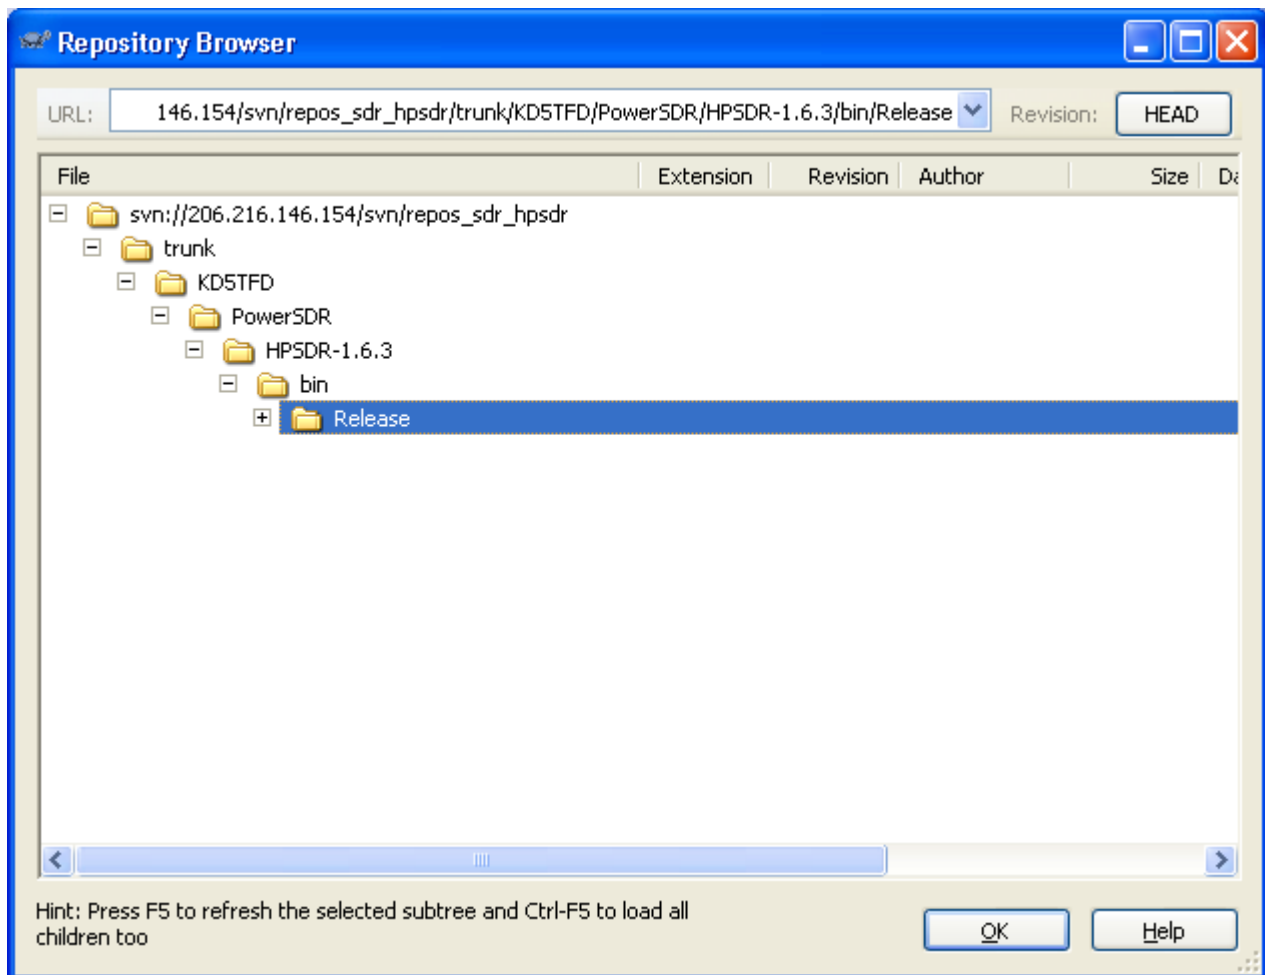

Fig 5: Tortoise SVN Repo-Browser Displaying Folders Containing LibUSB and PowerSDR Binaries
1. Download, using e.g. TortoiseSVN (<http://tortoisesvn.net/>), the LibUSB driver package from the HPSDR SVN system (see Fig 5) at:
2. Download the PowerSDR package from the HPSDR SVN system (see Fig 5) at⁵: